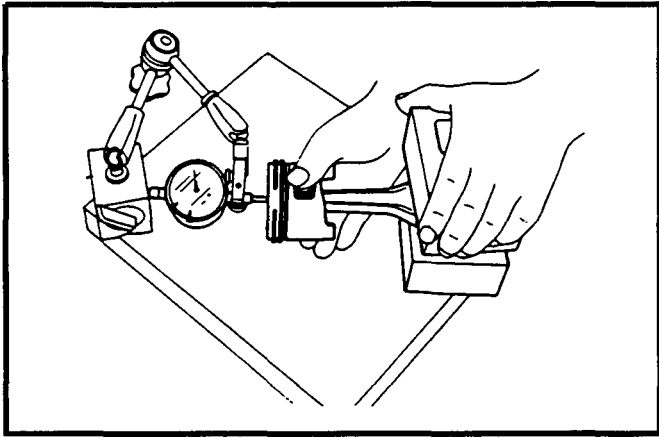

Figure 12.
10. Check the piston-to-piston pin oil clearance. See Figure 12.